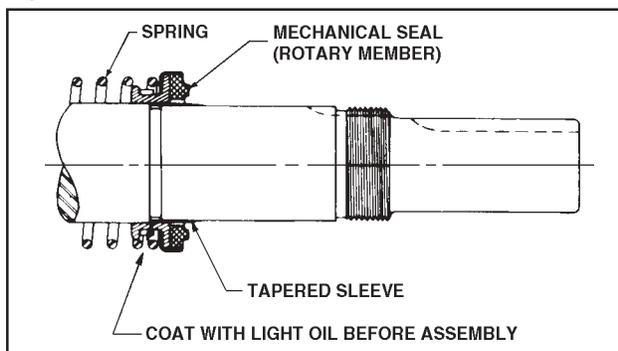

Figure 22
4. Place tapered installation sleeve on shaft. Refer to Figure 22. Sleeve is furnished with GG, AS, AK, and AL replacement mechanical seals. Coat rotor shaft, tapered installation sleeve, and inner diameter of mechanical seal rotary member with a generous amount of refrigeration oil. Petrolatum may be used but grease is not recommended.